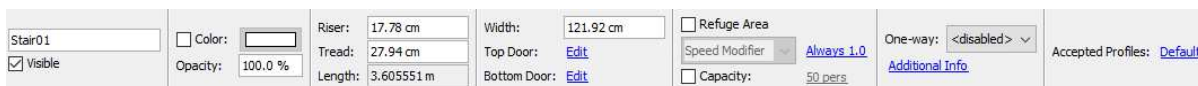

Figure 51. Stair property panel
Stairs have a number of properties that control their geometry and behavior of occupants that travel on them. When a stair is selected, these properties can be seen in the stair’s property panel as shown in Figure 51.
2. Select the stair (or several) so its properties are visible in the property panel as shown in Figure 51.